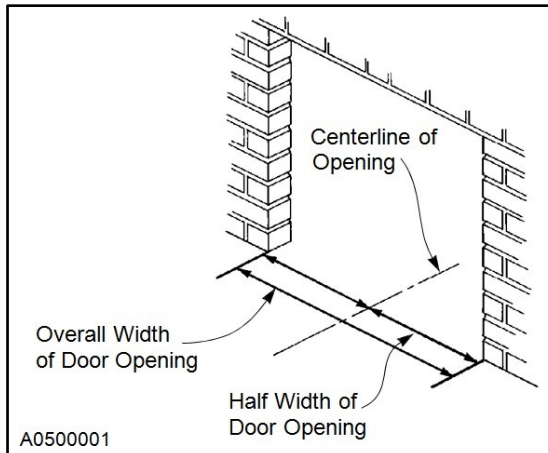

Figure 13
1. Measure the width of the door opening. Then divide the measurement in half to locate the centerline. Mark the centerline along the floor. (See Figure 13)